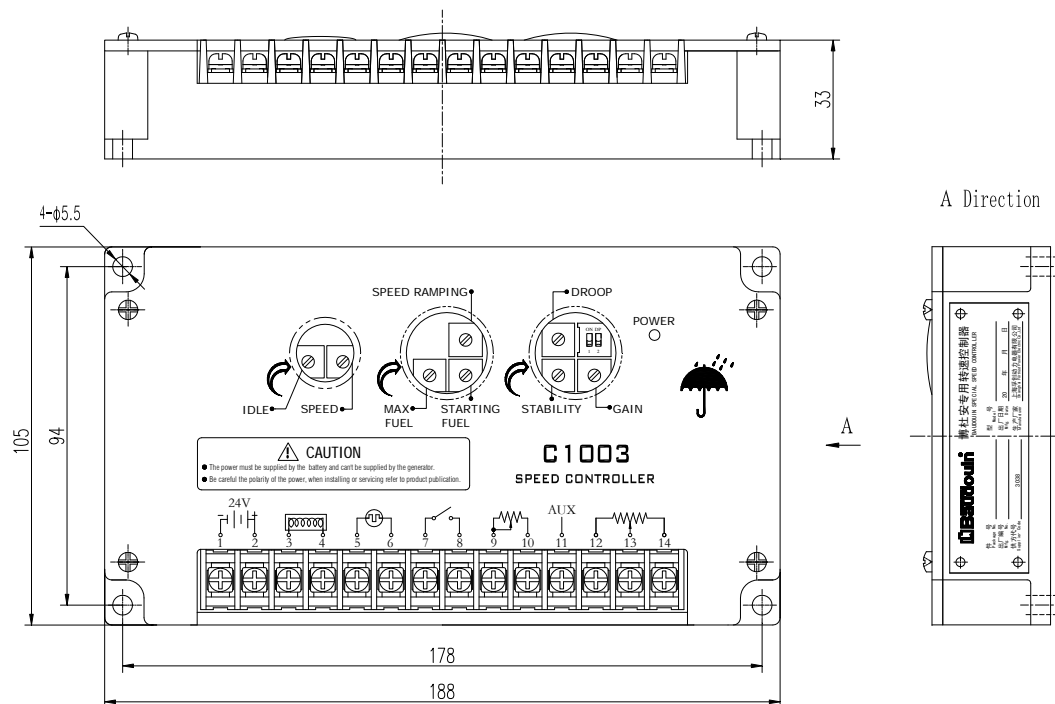

Figure 2.2 The outline and installing size of the speed controller C1003
2.1.4 The outline and installing size of the speed controller C1003 (as shown in figure 2.2)